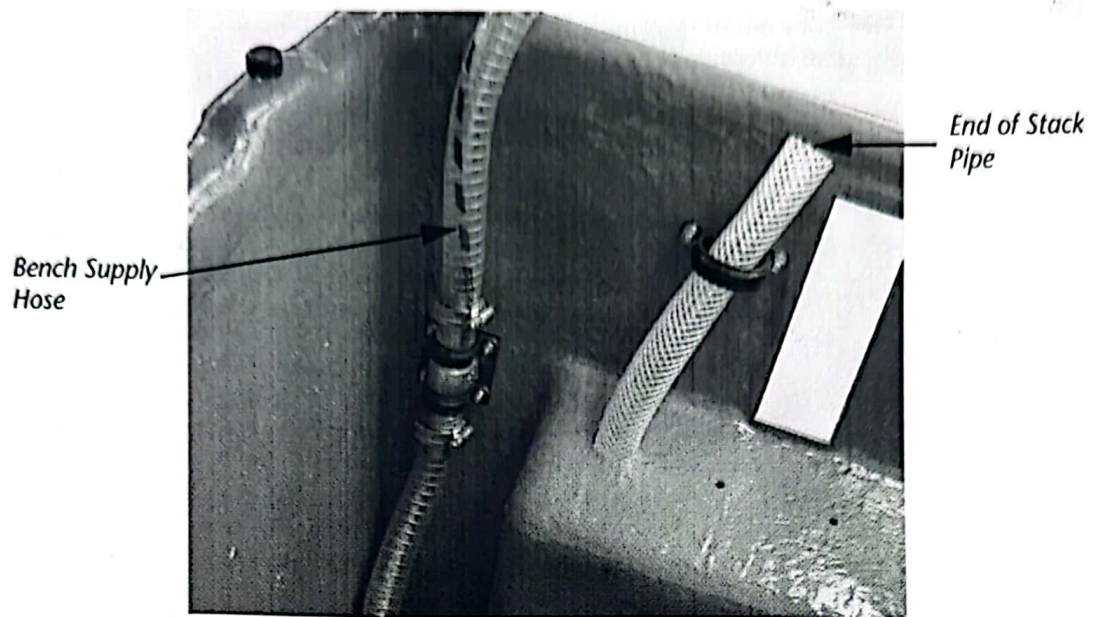

Figure 6 Inside View, Showing the end of the Stack Pipe
The Hydraulic Bench also has a simple 'Stack Pipe' connecting directly to the bottom of the sump and held in position inside the bench (see Figure 6). This pipe does three things:
3. Undo the Stack Pipe fixings inside the Hydraulic Bench (see Figure 6).